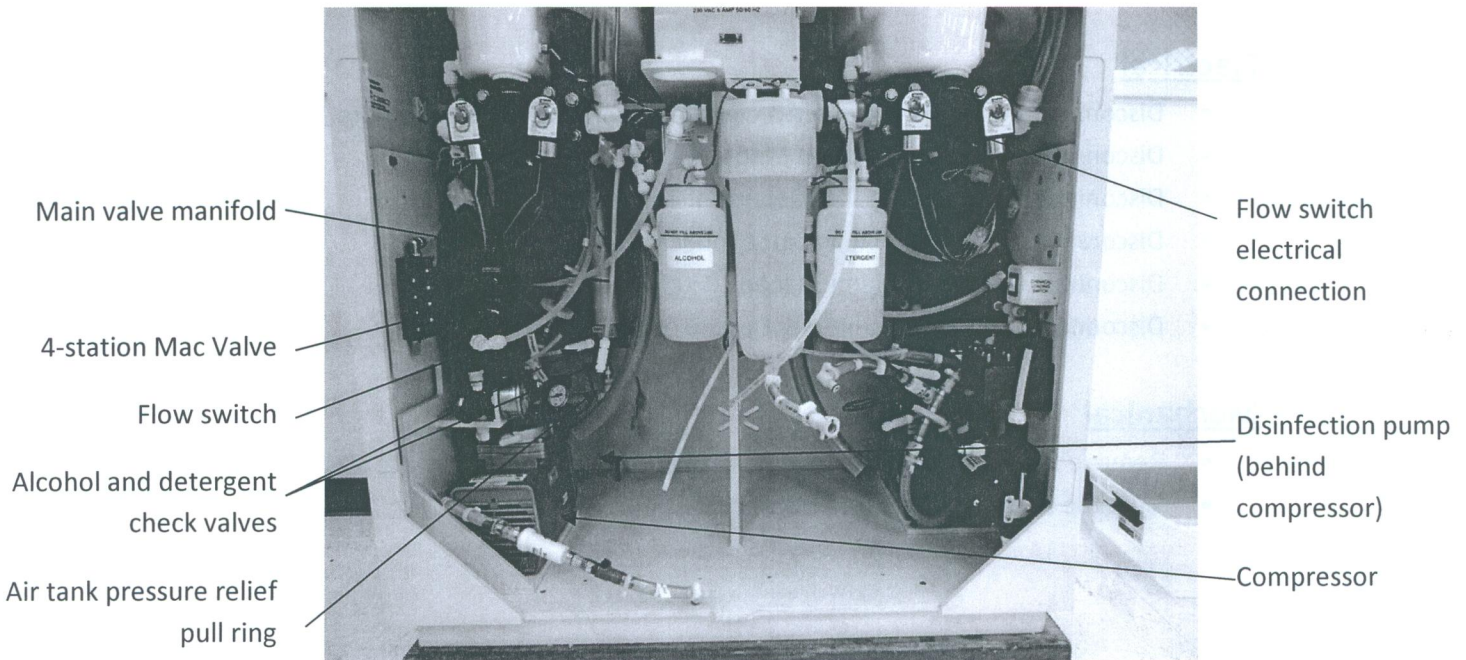

Fig 11
- Disconnect the 3/8" air line at the A side 4 station Mac valve manifold. Refer to figure 11.
- Disconnect the check valve of the A side alcohol line, leaving the check valve with the alcohol reservoir side of the break. Refer to figure 11.